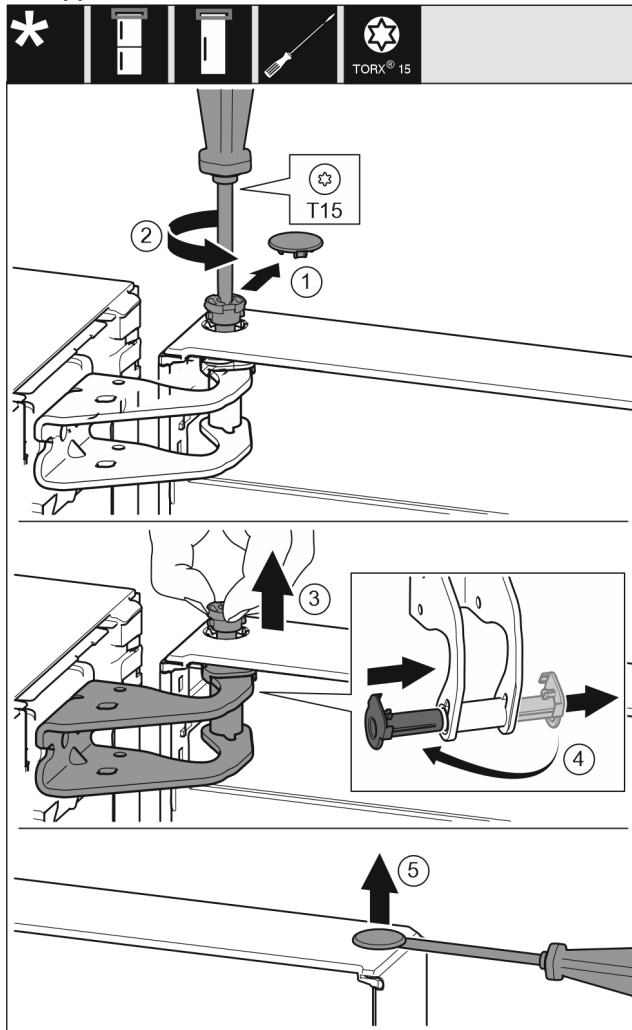

Fig. 7
- Carefully remove the protective cover. *Fig. 7 (1)*
- Undo the bolt a little with a T15 screwdriver. *Fig. 7 (2)*
- Hold the door and remove the bolts with your fingers. *Fig. 7 (3)*
- Pull the bearing bush out of the guide. Insert from the other side and latch into place. *Fig. 7 (4)*
- Carefully lift the plugs out of the door bearing bush with a slotted screwdriver and pull them out. *Fig. 7 (5)*